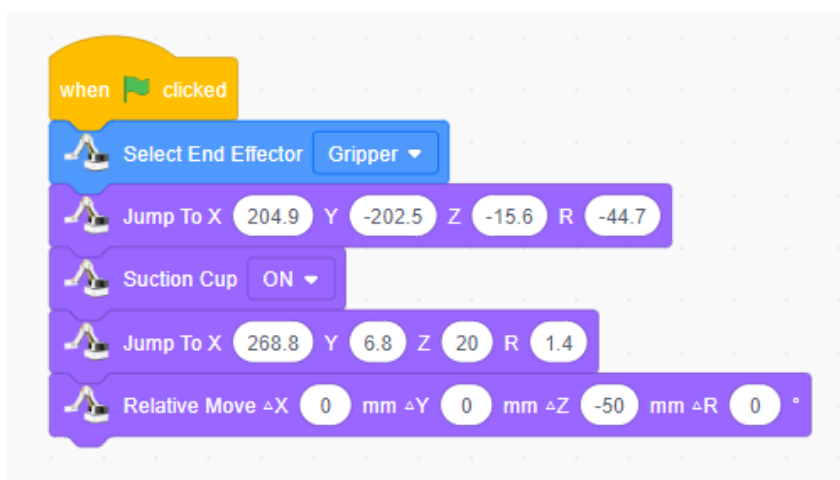

Figure 1.17 Single-stamping program
Step 2: Review how to write a single-stamping program, as shown in Figure 1.17.